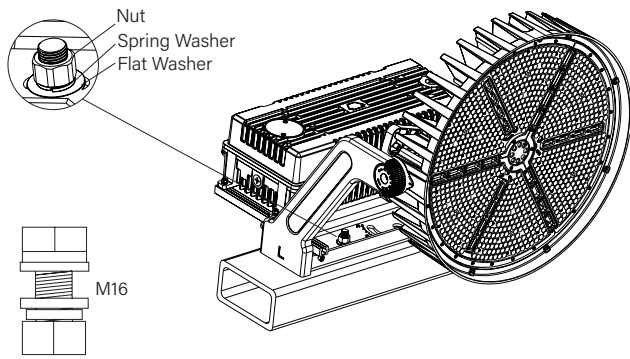

Figure 18
- Place the sports light on to the mounting bar, and secure it with M16 nuts, bolts, and washers. (Figure 18)